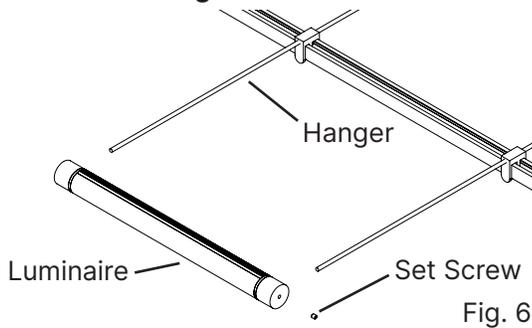

Fig. 6
1. Align **Linear Rotational Luminaire** with both **Hangers** (Fig. 6).